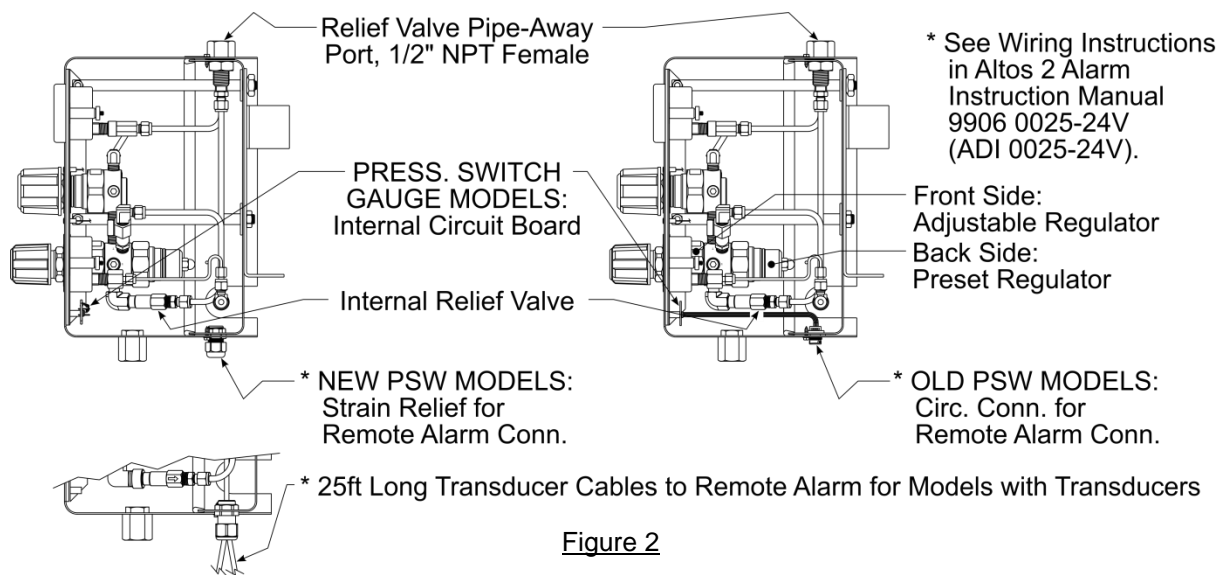

Figure 2
- d. Relief valve: The purpose of the relief valve is to protect the AutoSwitch system and its components only (Figure 2). If there is pressure sensitive equipment downstream of the AutoSwitch system, it is recommended that an appropriately sized relief valve be installed in the line to protect this equipment.
The arrow on the priority valve always points to the primary side. The bank opposite the primary side is considered the reserve side. Starting with the arrow pointing to the right side, gas will flow from the right side cylinder. As the gas in the primary side is depleted, the gas pressure will drop on the right gauge. When the inlet pressure drops to the pressure setting of the reserve side regulator, flow will begin from the reserve cylinder; the inlet pressure on the primary side will stabilize. This is called a changeover. At this point, the gas pressure on the reserve side (preset regulator – see Figure 2) will drop. This indicates that it is time to change the cylinders on the primary side. Before removing the nearly depleted primary cylinder, the priority valve should be rotated 180°. This makes the reserve cylinder the primary source. Remove the depleted cylinder and replace with a full cylinder. Before removing the cylinder, be sure to close the cylinder valve and any other valves that connect the cylinder to the system. The full replacement cylinder is now the reserve cylinder. Note: while changing cylinders on one side, there will be no interruption in flow. A depleted cylinder will have the following gas pressure remaining: